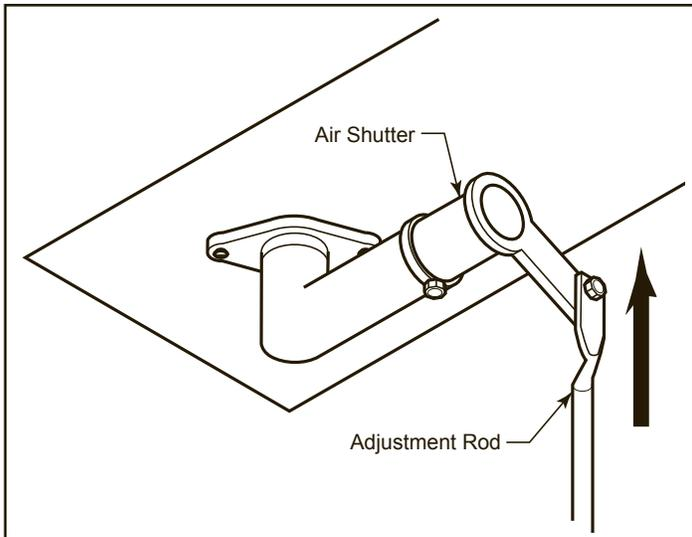

Figure 37 - Push Adjustment Rod Up to Close Air Shutter
- To increase air mixture, pull down the adjustment rod located beneath the stove. This opens the shutter more and will stop sooting. Figure 37